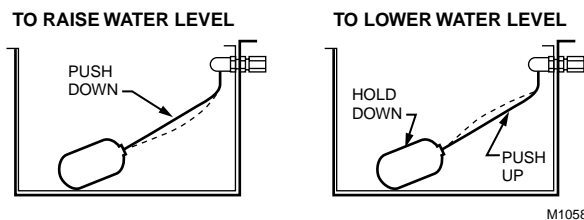

Fig. 9. Adjust water level.
3. Adjust the water level in small increments. Raise the water level by pushing down on the center of the float arm. Lower the water level by pressing the float down with one hand and pulling up on the center of the float arm with the other hand. See Fig. 9.